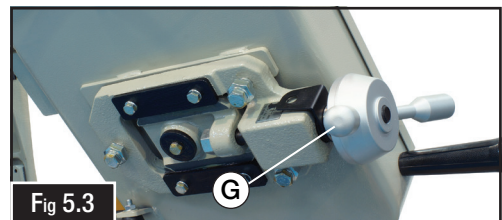

Fig 5.3
- G. **Blade Tension Knob and Gauge:** Rotate clockwise to increase or counterclockwise to decrease blade tension. (Fig. 5.3)